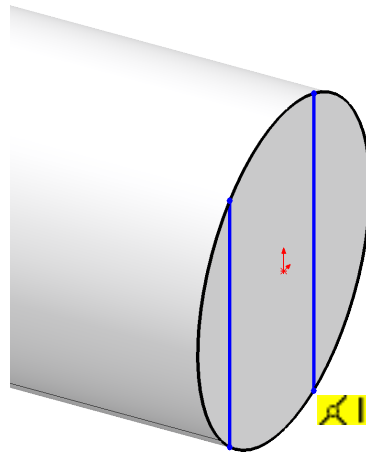

Fig. 7
Step 3. Click **Line** (L) on the Sketch toolbar.
Step 4. Sketch **two vertical lines (chords)** across circle, **Fig. 7**.